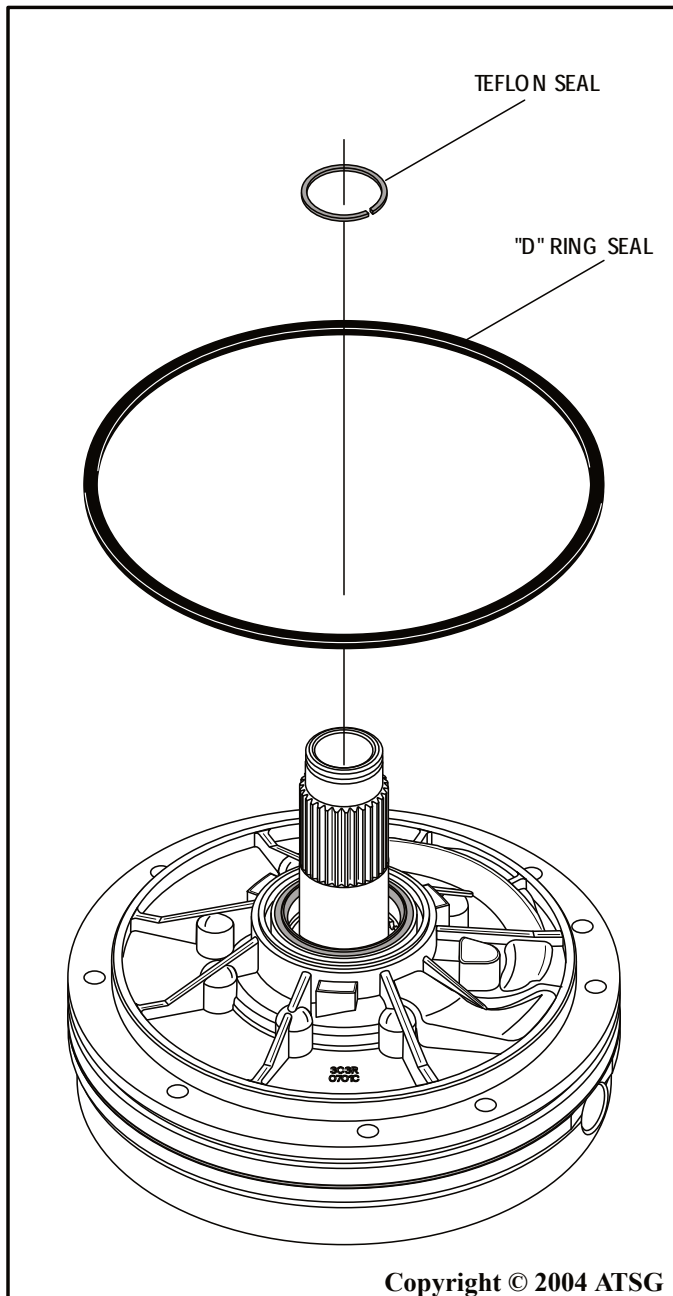

Figure 94
26. Install new pump to case "D" ring seal into the groove in pump body and ensure that it is not twisted (See Figure 94).
27. Install new Teflon® seal on stator shaft, as shown in Figure 94.